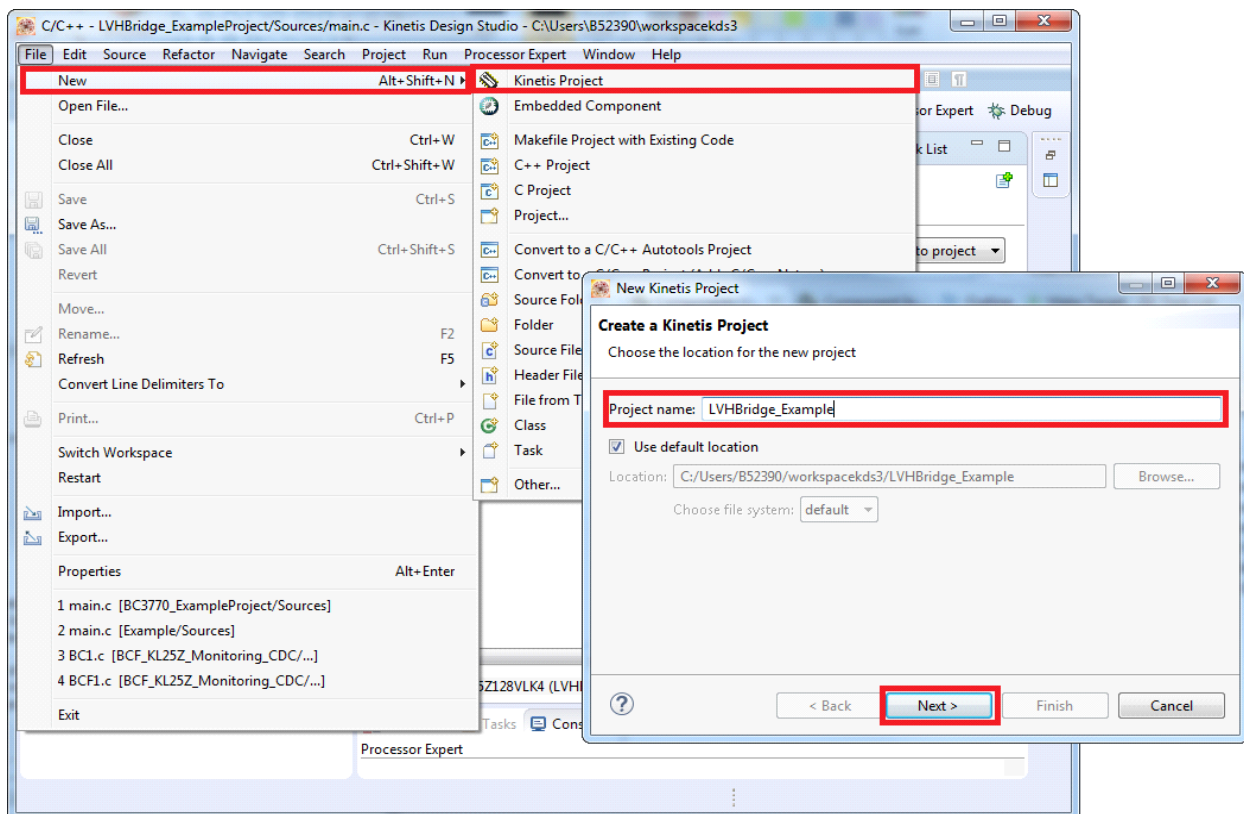

Figure 24. New project creation (a)
1. In the Kinetis Design Studio menu bar, select **File -> New -> Kinetis Project**. When the New Kinetis Project dialog box opens, enter a project name into the text box and then click **Next** as shown in Figure 24.